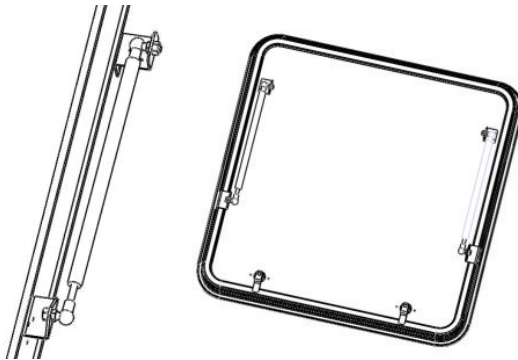

Figure 8
5. INSTALLATION OF THE CLIPS: (FIGURE 8)